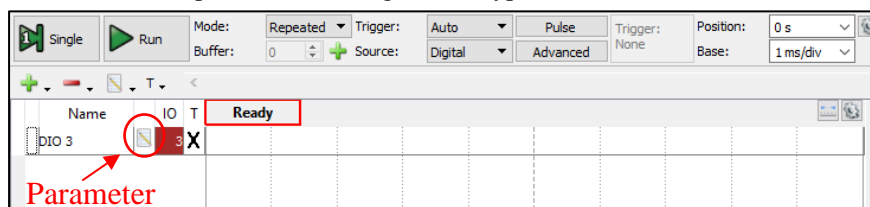

Figure 16: Default Signal
**Setting up a Signal:** Configure Digital I/O signal 3 into an output signal by selecting the green +, signal, DIO3, and Add. You should now see something similar to Figure 16. Now select parameter (see Figure 16), type a name into the text box such as My Signal, and press ok. It is a good habit to name all of your signals. Notice that the box under IO has the number of the signal wire (in this case 3) and the color. This will apply to all signals. You can change the base based on the frequency of the input (to understand this, do the next exercise). To remove a signal, select the signal and press the red -.